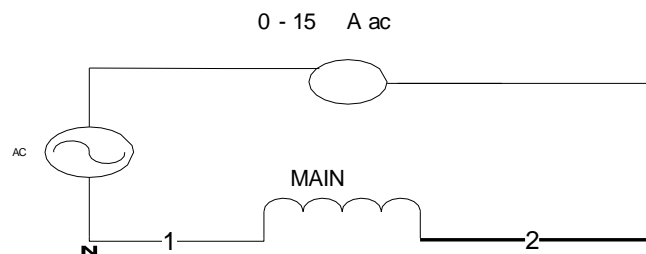

Figure 10-1
1. Using your Capacitor-Start Motor, Power Supply, AC Ammeter and AC Voltmeter connect the circuit shown in figure 10-1.